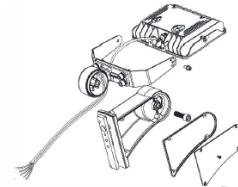

Fig. 5.4
2. Pass the input wire of the fixture through the bracket (Fig. 5.4).